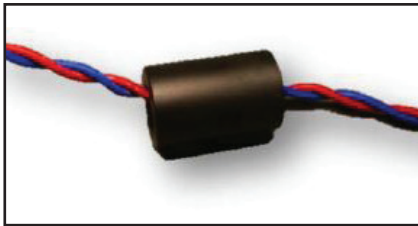

Figure 1: Leads may be simply fed straight through the ferrite core.
2. Slide the twisted leads through a ferrite core and position it **as close to the sensor as practical**. Refer to Figures 1 and 2.